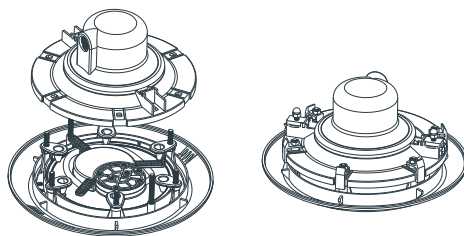

Figure 5
- 2) The existing installation of PAR56 bulb lamp under water instead of on the market, only the original PAR56 bulb is removed, the ultra-thin LED lamp disc attached to the face on the cover with the 6 positioning block is fixed, and then loaded on the bottom shell by screws (Figure 5).